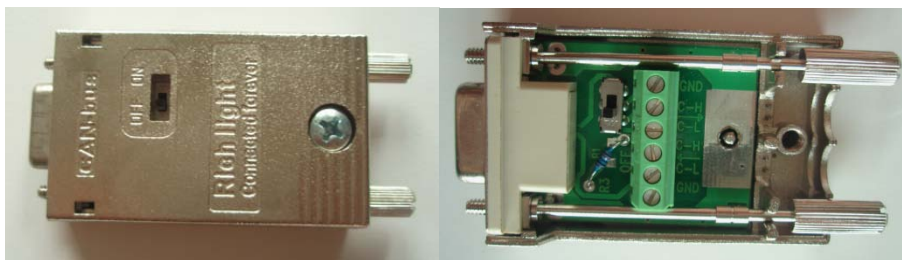

Figure 1: Picture of Product
- Strip the wires according to Figure 1.